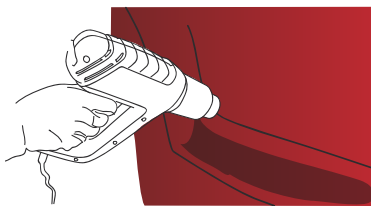

Figure 14
- ▶ Once this step is completed, heat again all the hollow parts which have undergone heavy deformation between 80 °C and 90 °C (176 °F and 194 °F) to thermoform the product definitively. (FIG. 14)